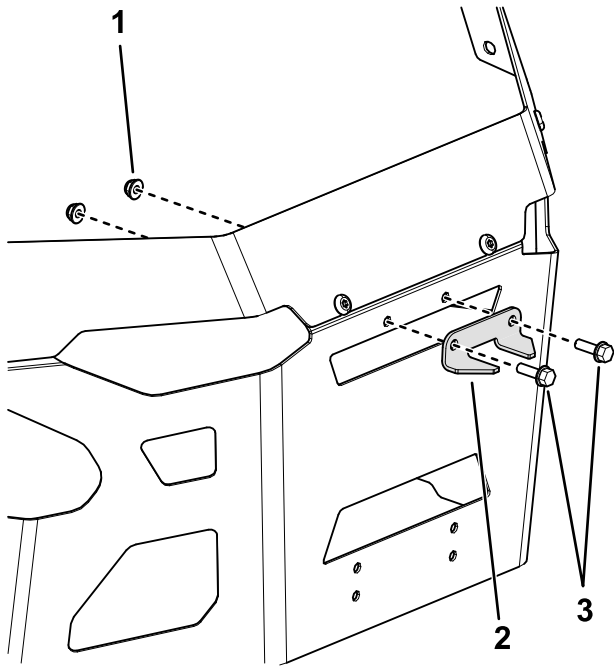

Figure 5
1. Install the stabilizer bracket to the guard using 2 bolts (5/16 x 1 inch) and 2 locknuts (5/16 inch) as shown in Figure 5.